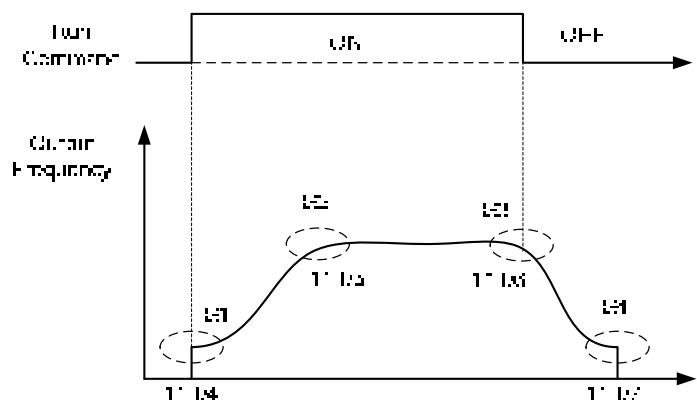

Figure 4.3.85 S curve characteristic
- The S curve function for acceleration / deceleration is used to reduce mechanical impact caused by the load during momentary starting and stopping of the inverter. To use the S curve function set the time for acceleration start point (11-04), acceleration end point (11-05), deceleration start point (11-06) and deceleration end point (11-07). Refer to figure 4.3.85.